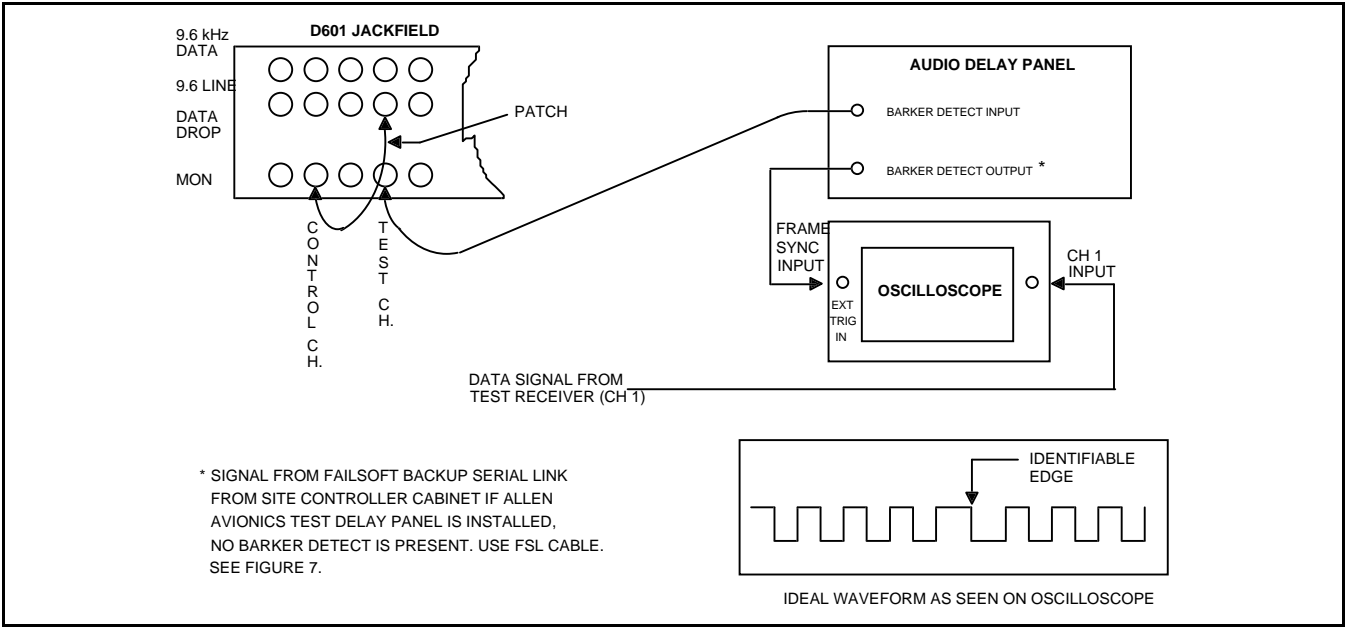
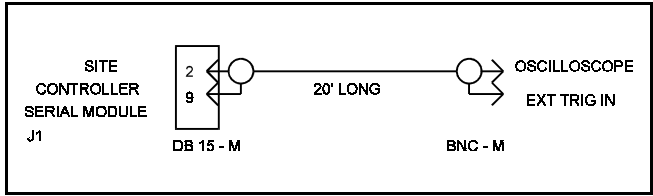

Figure 6 - Digital Delay Adjustment
Figure 7 - FSL Cable
2. At the jackfield, patch the control channel data into the channel being set (D601 9.6 DATA). See Figure 6
3. With the test delay set to zero "0", use delayed sweep on the oscilloscope to display the "dotting/barker" region of the control channel data (External trigger on FSL, discriminator output of the test radio set to the proper RF channel). On the test panel, only the site under test should have PTT (See Figure 6 for "dotting/barker" region and oscilloscope hook up). If no barker detect is present, use FSL Cable. Refer to Figure 7.
5. Add one (1) millisecond of delay on the test delay; the edge will reappear after the modem retrains at some random point. Wait for resync. The reference edge should come back to the first cursor. If the reference edge "Resyncs" to the second cursor, the 300 Hz polarity is inverted going to the site and must be changed.
Perform the steps in the order given. Refer to the Figure 6 and to Delay Unit Shelf Assembly Maintenance Manual LBI-38941. Ensure delay A/B select switch (S2-1) is in correct position on delay card.
1. Connect the test equipment as shown in Figure 6.